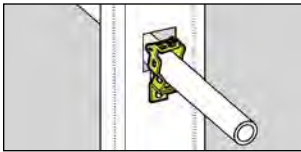

Figure 19 - BG-8-12-H7
- (A) **General.** Type AC shall be supported and secured by staples, cable ties, straps, hangers, or similar fittings, designed and installed so as not to damage the cable.
- (B) **Securing.** Unless otherwise provided, Type AC cable shall be secured within 300 mm (12 in.) of every outlet box, junction box, cabinet, or fitting and at intervals not exceeding 1.4 m (4¹/₂ ft) where installed on or across framing members. (See Figures 19 -22)
- (C) **Supporting.** Unless otherwise provided, Type AC cable shall be supported at intervals not exceeding 1.4 m (4¹/₂ ft). Horizontal runs of Type AC cable installed in wooden or metal framing members or similar supporting means shall be considered supported where such support does not exceed 1.4 m (4¹/₂ ft) intervals.
- (A) **General.** Type MC shall be supported and secured by staples, cable ties, straps, hangers, or similar fittings or other approved means designed and installed so as not to damage the cable.
- (B) **Securing.** Unless otherwise provided, cables shall be secured at intervals not exceeding 1.8 m (6 ft). Cables containing four or fewer conductors sized no larger than 10 AWG shall be secured within 300 mm (12 in.) of every box, cabinet, fitting or other cable termination. (See Figure 19 - 22)
- (C) **Supporting.** Unless otherwise provided, cables shall be supported at intervals not exceeding 1.8 m (6ft). Horizontal runs of Type MC cable installed in wooden or metal framing members or similar supporting means shall be considered supported and secured where such support does not exceed 1.8 m (6 ft) intervals.
(See Figures 19 - 22)